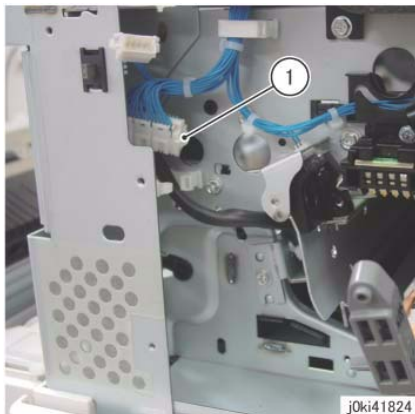

Figure 9 Disconnect the connectors
11. Disconnect the connector. (Figure 9)